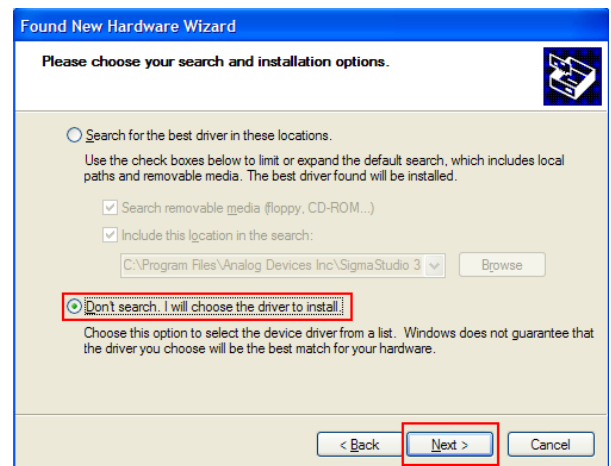

Figure 3. Selection of the Driver to Install
3. Select **Don't search. I will choose the driver to install** and click **Next>** (see Figure 3).